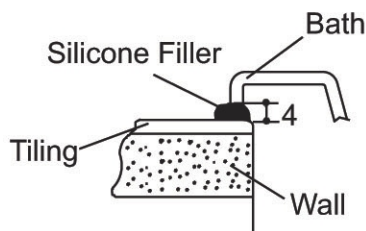

Fig.1
- The necessary gap between bath rim and the wall is 2 mm horizontally and 4 mm vertically. Refer to figures 1, 2, and 3 above.